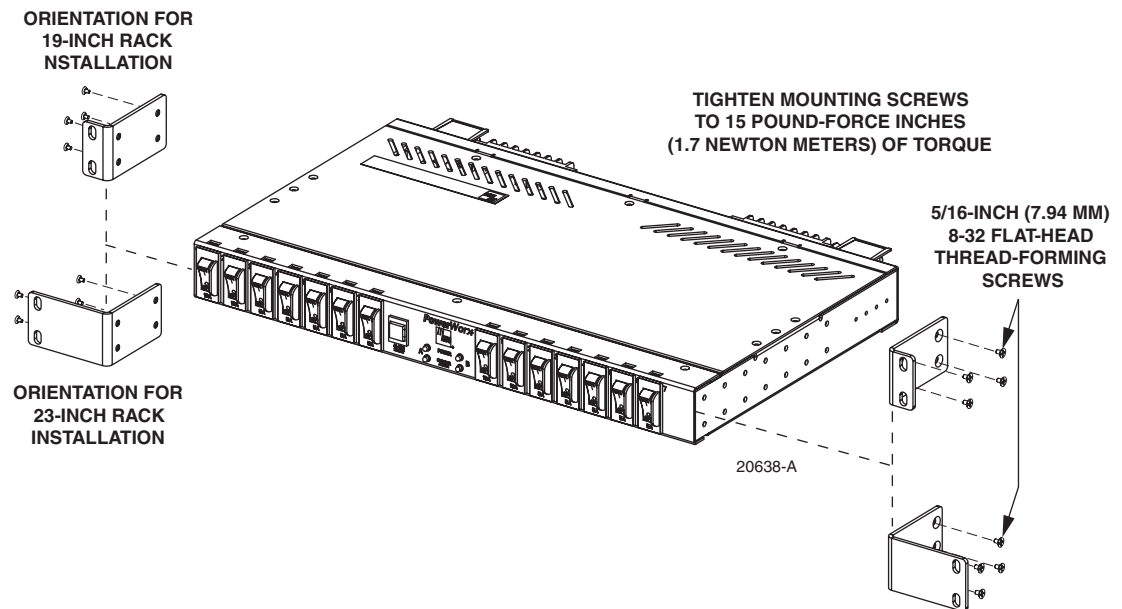

Figure 12. Repositioning the Mounting Brackets (Optional)
2. Attach the mounting brackets to the sides of the chassis using the eight 5/16-inch (7.94 mm) 8-32 flathead thread-forming screws provided. Tighten the screws to 15 pound-force inches (1.7 Newton meters) of torque to insure grounding. Refer to Figure 12.